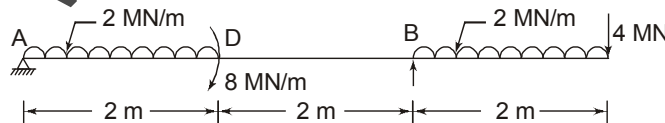

Fig. 2
8. (a) Find the deflections at points D and C of the beam loaded as shown in Fig. 2. (15)